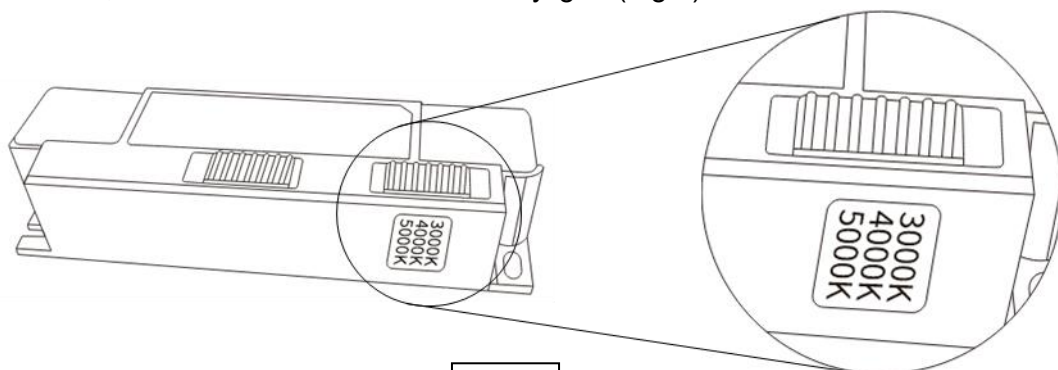

Fig. 6
9. Beneath the terminal cover is the LED Driver for the THERMALITE PRO MINI's LED Lighting Fixture (B). Use the toggle switch on the driver to select the desired colour temperature of the Lighting Fixture (B) – 3000K Warm White, 4000K Cool White or 5000K Daylight. (Fig.6)